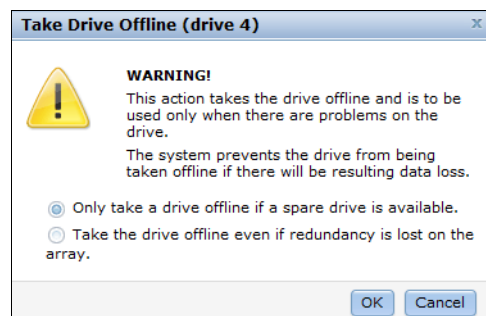

Figure 8-6 Take Drive Offline warning window
- ▶ The internal drives can be taken offline when there are problems on the drives by clicking **Take Offline** in the **Actions** drop-down menu. A confirmation window opens (Figure 8-6). The IBM Flex System V7000 Storage Node storage system prevents the drive from being taken offline if there might be data loss as a result. A drive should be taken offline only if a spare drive is available.